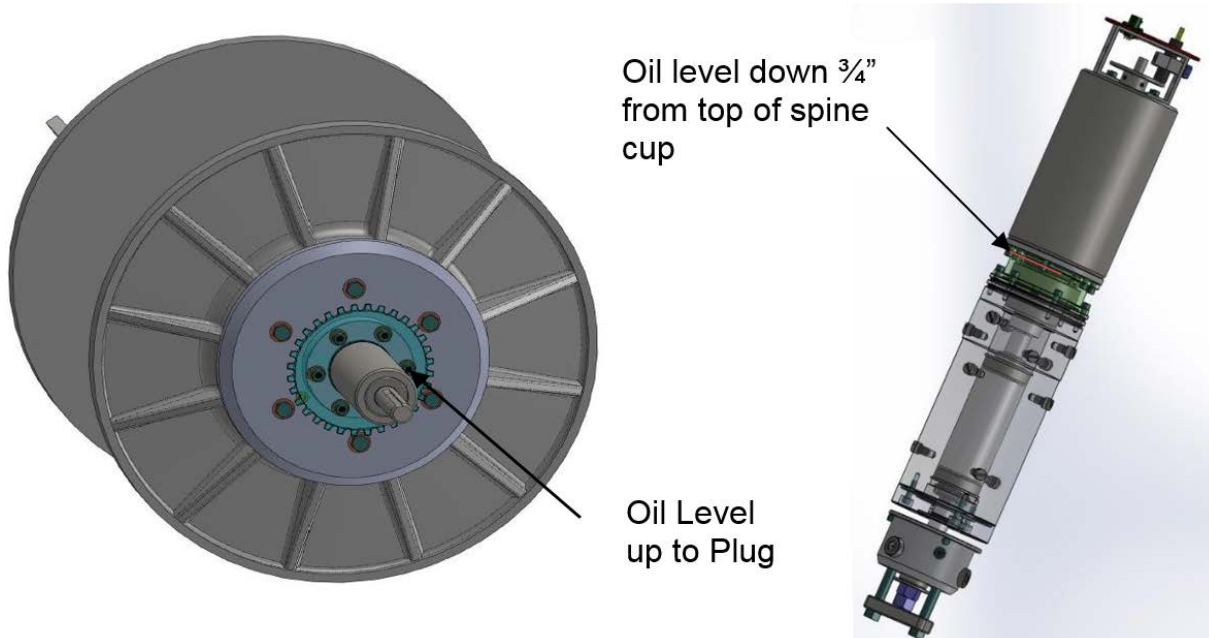

Figure 56. Winch Transmission Oil Level
- Not shown in Figure 56 is the aluminum sealing ring that improves the seal between the top of the filter tube and the hole wall. The sealing ring is attached using six small pan-head screws and washers.